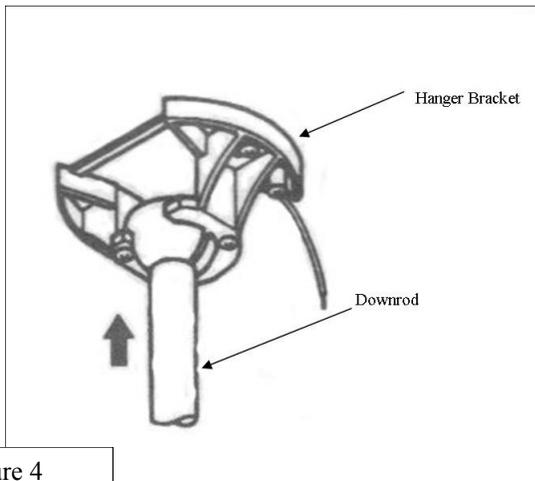

Figure 4
- Notice the half ball on the end of the support rod is grooved down one side. (figure 4) This keyway fits over the small keyway pin on the inside of the mounting bracket and keeps the ceiling fan from spinning on the mounting bracket.